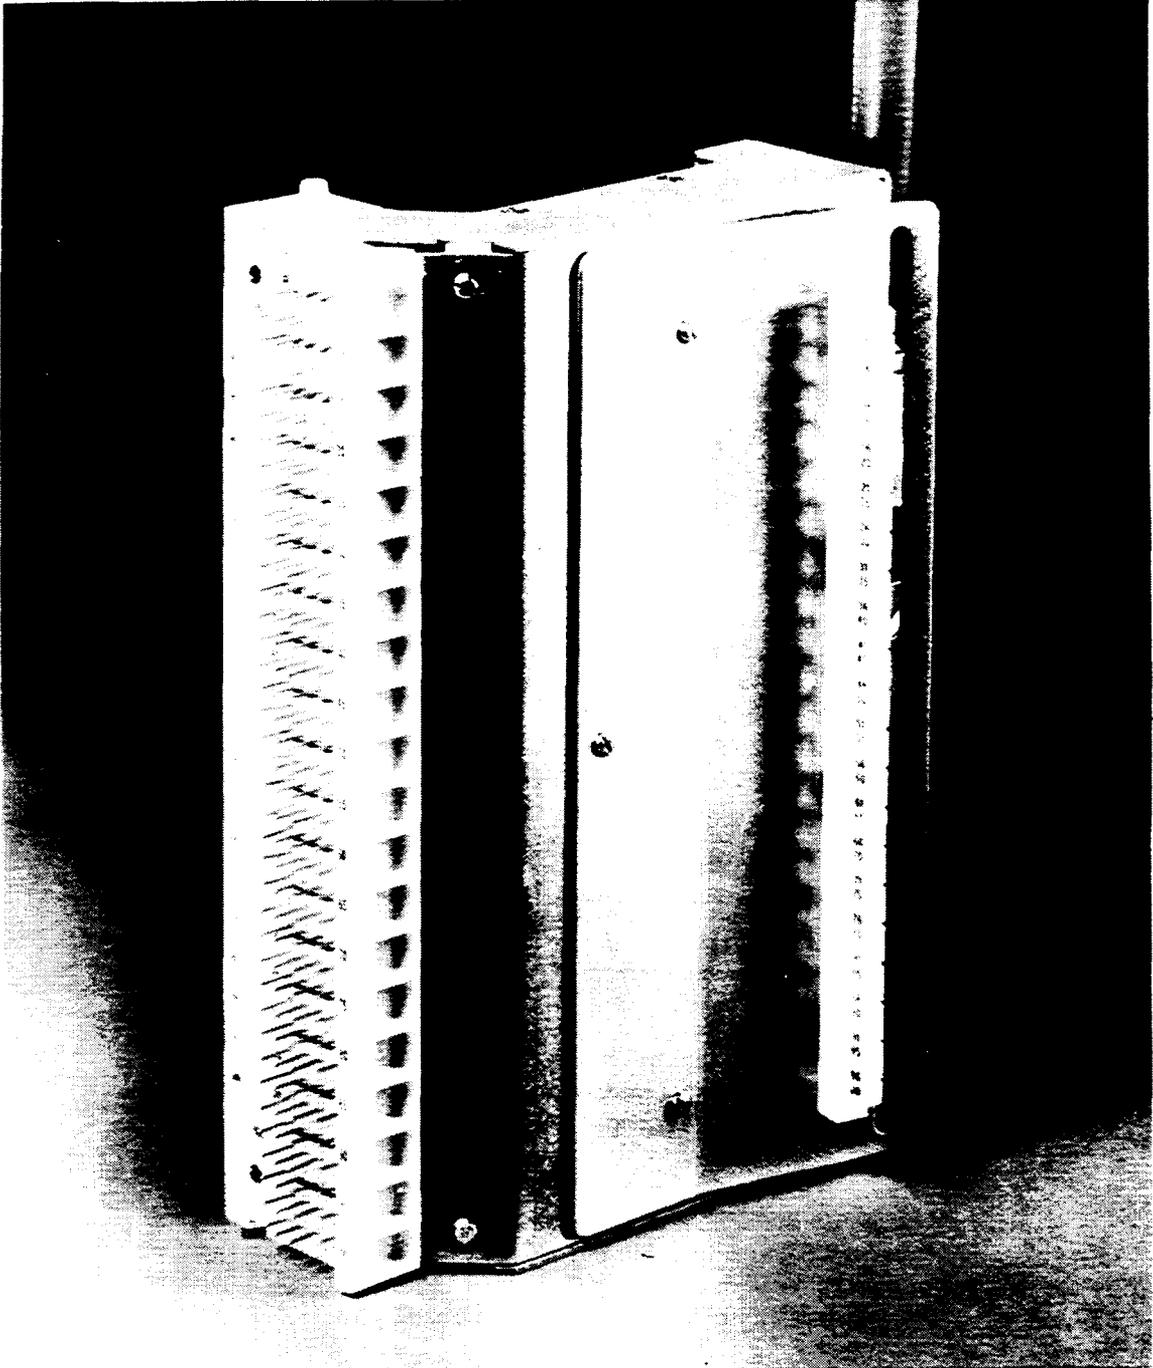

Figure 28. Right Side View 311L UL Listed Connector
7.04 As in other Building Entrance Protector designs, the loose fusible length conductors are encased with a metal side cover (Figure 28) to form a fusing chamber and prevent any arcing or fusing activity from affecting adjacent equipment or terminations.